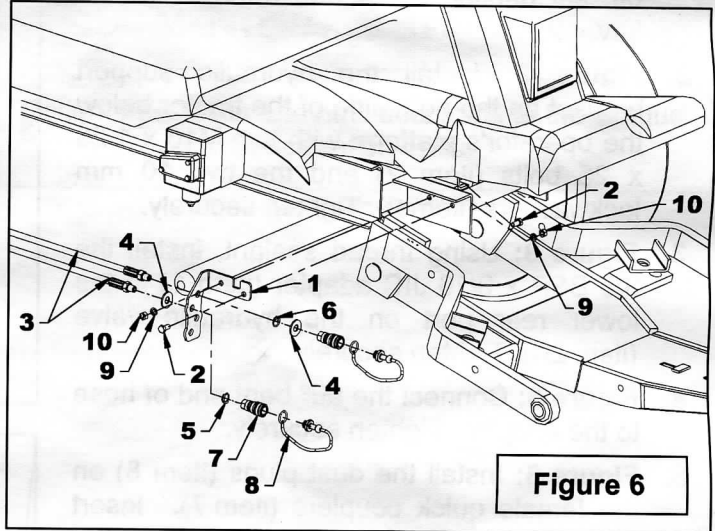

Figure 6
2. **Figure 6:** Install the hydraulic support bracket on the right side of the machine below the operator platform inserting two 3/8" x 3/4" bolts, lockwashers and nuts (items 2-9-10) in the C and D holes, in the order shown. Tighten securely.
5. **Figure 6:** Install the dust plugs (item 8) on the female quick couplers (item 7). Insert the straight end of a hose (item 3) in the upper hole of the hydraulic support (item 1) and install on that end a flat washer (item 4), a green identification ring (item 6) and the female quick coupler with its dust plug. Take the second hose (item 3) and install a flat washer (item 4) on the end and insert it in the second hole from the top. Place a yellow identification (item 5) and a female quick coupler with its dust plug.